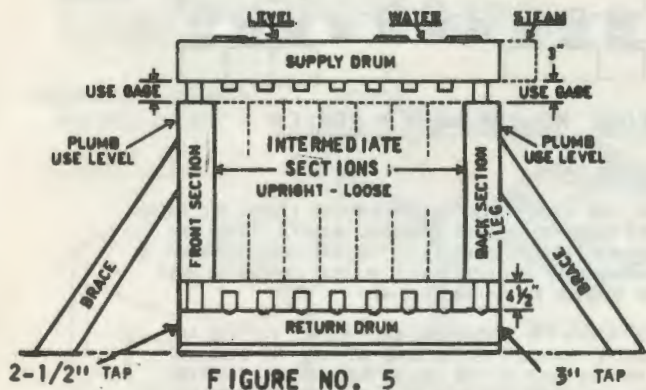

FIGURE NO. 5
1. PLACE SUPPLY DRUM (3260) FOR WATER OR (3073) FOR STEAM ABOVE THE BOILER. SUPPORT DRUM WITH CHAIN HOIST FROM PIPE FRAME, BUILDING STRUCTURE OR OTHER SUITABLE MEANS. LINE UP NIPPLES WITH THE TOP TAPPINGS OF FRONT AND BACK SECTIONS. ENGAGE NIPPLES IN FRONT AND BACK SECTIONS AND MAKE UP TIGHT USING PIPE JOINT COMPOUND. USE 3" WOOD SPACING GAGE TO MAINTAIN EXACT 3" SPACE BETWEEN BOSS ON DRUM AND BOSS ON SECTION. CHECK TO BE SURE FRONT SECTION REMAINS PLUMB AND TOP OF SUPPLY DRUM IS LEVEL. SEE FIGURE NO. 5.
2. PLACE RETURN DRUMS (3114) IN POSITION WITH 3" TAPPINGS TOWARD THE BACK OF THE BOILER. LINE UP NIPPLES WITH BOTTOM TAPPINGS IN FRONT AND BACK SECTIONS. ENGAGE NIPPLES IN FRONT AND BACK SECTIONS AND MAKE UP TIGHT USING PIPE JOINT COMPOUND AND MAINTAINING 4-1/2" SPACING BETWEEN BOSS ON DRUM AND BOSS ON SECTION. SEE FIGURE NO. 5.